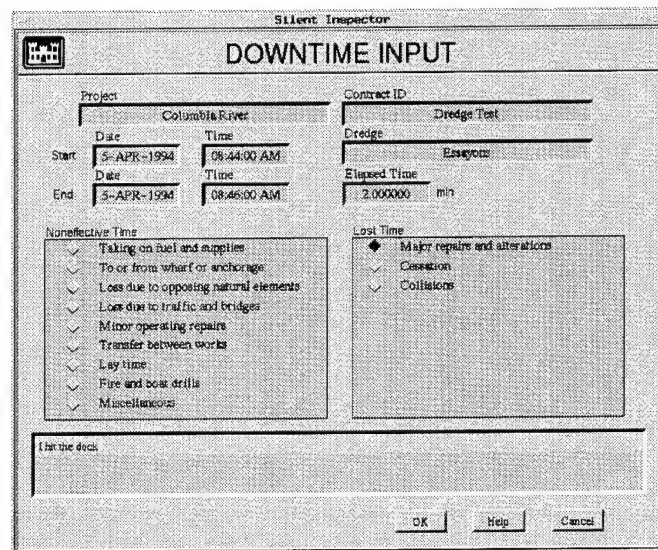

Figure 39. **Downtime Input** screen
- Click on **OK**, and information regarding the selected downtime event will be displayed on the **Downtime Input** screen (Figure 39).